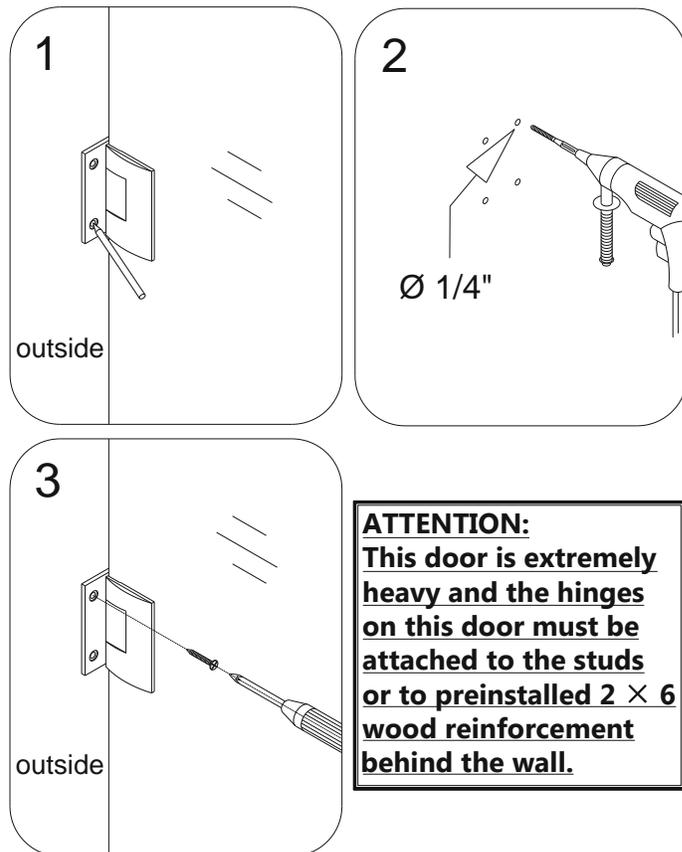
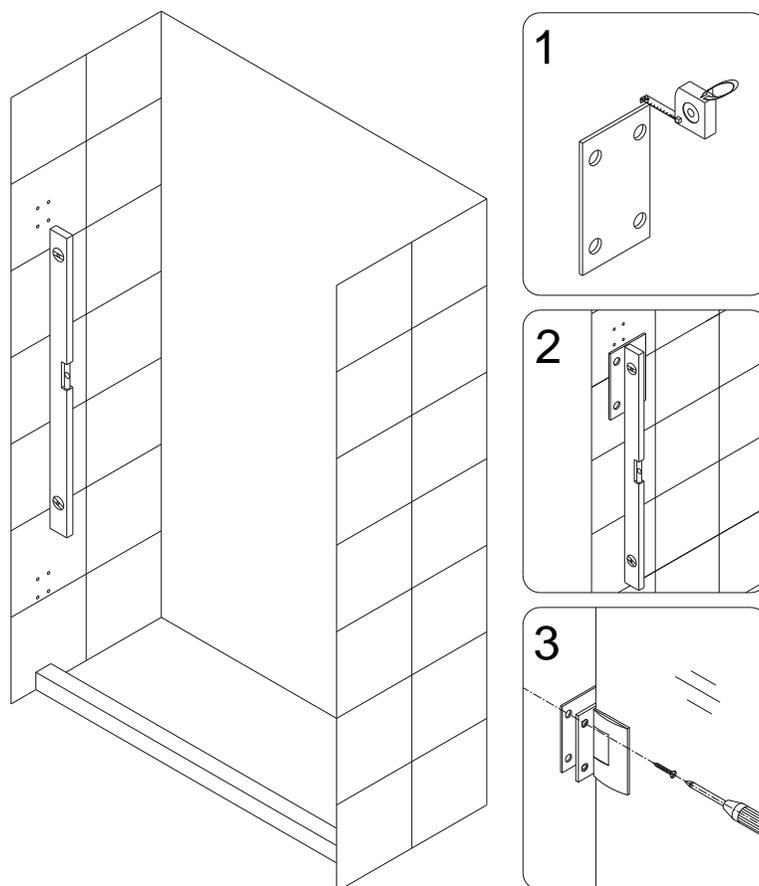

Fig. 3
Fig. 4
The included PVC hinge spacers (31) are provided to compensate for out of plumb wall conditions. Use only as needed as their use could compromise the opening size of your shower. Please see Fig 4 for an installation example.
See Fig. 3 and Fig. 4 for details.